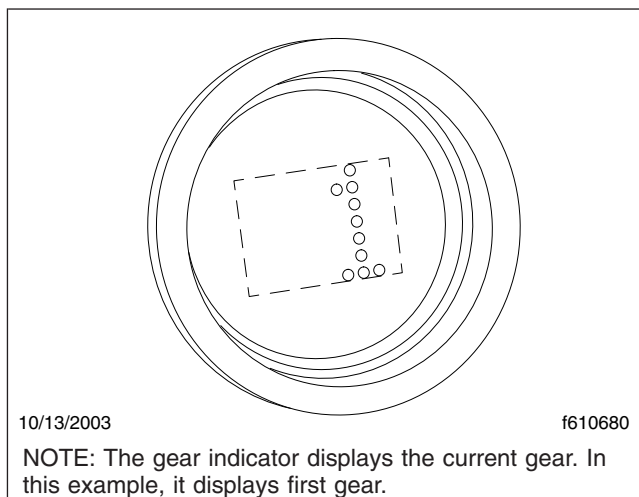

Fig. 14.5, Current Gear Display
In either mode, the gear indicator displays the current gear. See **Fig. 14.5**.
Drive (D) is directly below N on the four-position selector switch located at the end of the SmartShift control lever. To select D, press in the neutral lock button and move the selector switch to the position below N. When drive is selected, the number of the currently selected forward gear displays on the gear indicator. See Fig. 14.5.